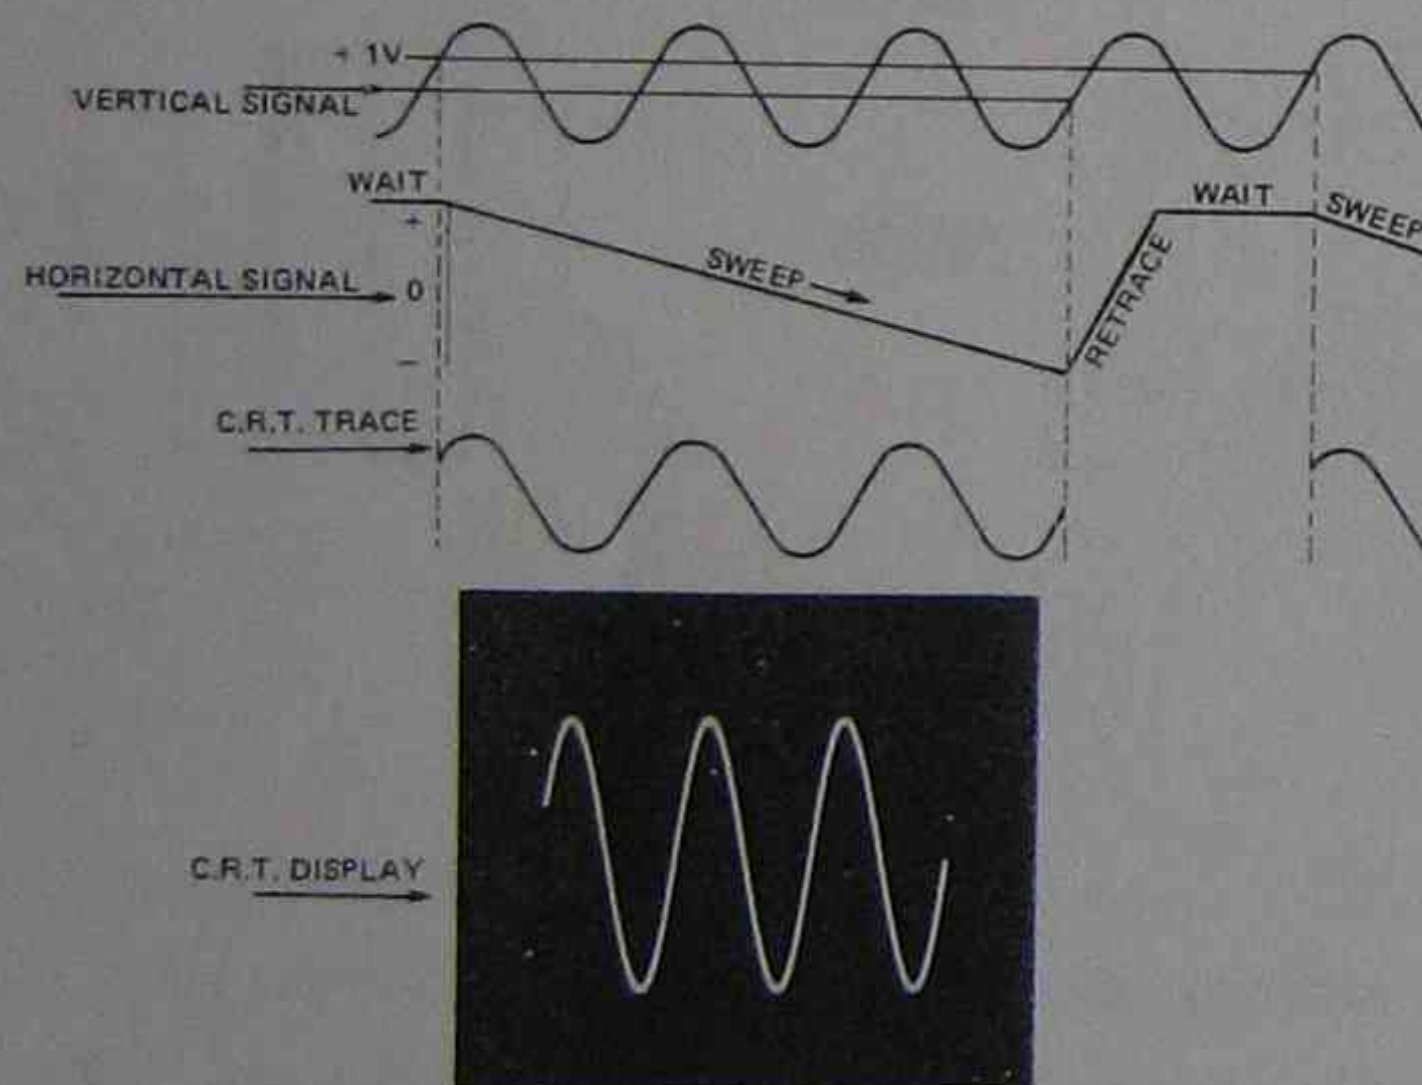

FIG. 20. TIME OF SWEEP INCREASED.
6.5 The time base can also be made stable at any sub-multiple of the vertical signal frequency. For example in Fig. 20 the time base runs at about 1/3 of the frequency of the vertical signal to produce a multiple cycle trace as explained in paragraph 5.7. It should be noted that the signal reaches the triggering level during the sweep time, but once the time base is running the signal voltage has no effect on the time base. The triggering level must be received when the time base is waiting to be triggered otherwise it has no effect.